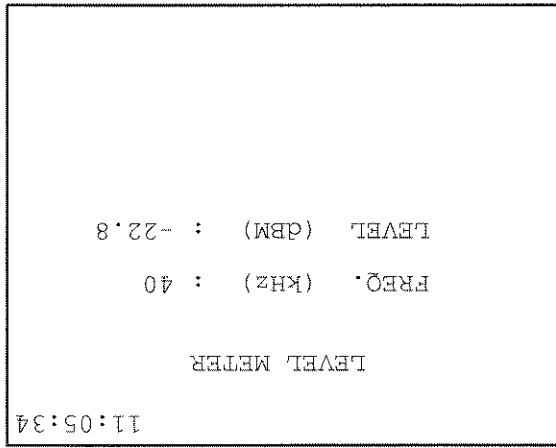

Figure 6-8 Level Meter
The level meter can be used to measure the frequency and level of a received tone. It can be connected to a conventional TIMS tone generator or a frequency oscillator at the far end. It measures the highest power frequency. Refer to Figure 6-8.
- 3) Enter LEVEL METER. A sample screen appears in Figure 6-8.